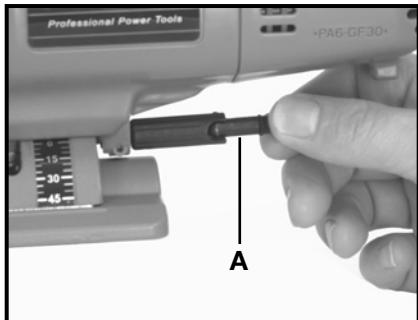
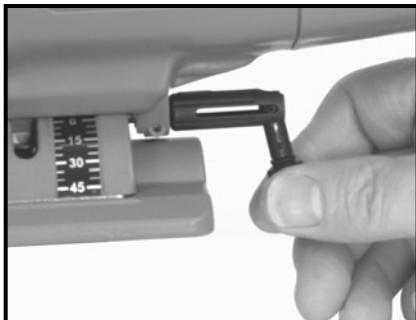

Fig. 10
Fig. 11
To tilt the base, pull the lever out of the end of clamp screw (A), Fig. 10, rotate the lever toward the front of the saw, Fig. 11, and turn the lever counter-clockwise until the base can be tilted. Set the base at the desired setting and tighten the screw by turning the lever clockwise.